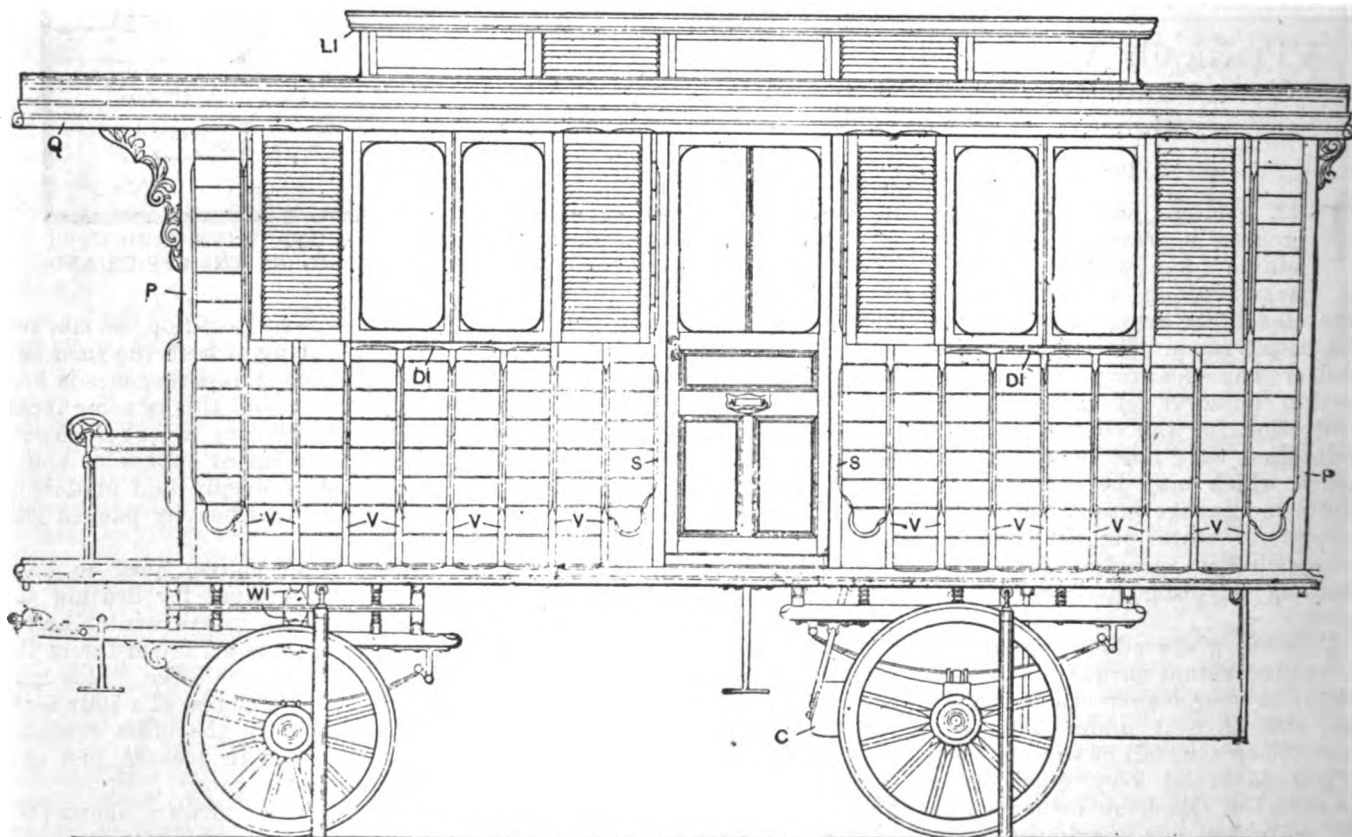
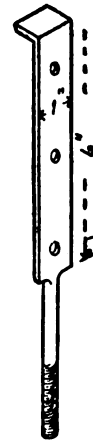

FIG. 1 SIDE ELEVATION OF THE CAMP TRAILER SHOWING GENERAL APPEARANCE
Fig. 8.—Strap-bolt.
**T**HIS van, a side elevation of which is shown in the engraving at Fig. 1 is designed for use either as a trailer behind an
Fig. 2 is a front view of the van showing the shaft A that carries the brake hand-wheel fixed at an angle to enable the screw and stay to be situated as near the centre of the body as possible and so equalize the stress on the roller or spindle carrying the lever and flaps to which blocks c (Fig. 1) are fixed.
The four corner pillars P (Fig. 1, 2 and 3), 2-3/8 in. by 2-3/8 in., are boxed out 1-1/8 in. by 1-1/8 in. as shown by the cross section (Fig. 7), and tenoned into the bottom-side and the cant rail Q, being fixed at the bottom end with a strap-bolt (Fig. 8) let into the
A dissection of a right fore-leg from the elbow to the foot is shown at Fig. 1. In this specimen the skin, connective tissue and hoof have removed so as to show the muscles of the arm and the tendons and